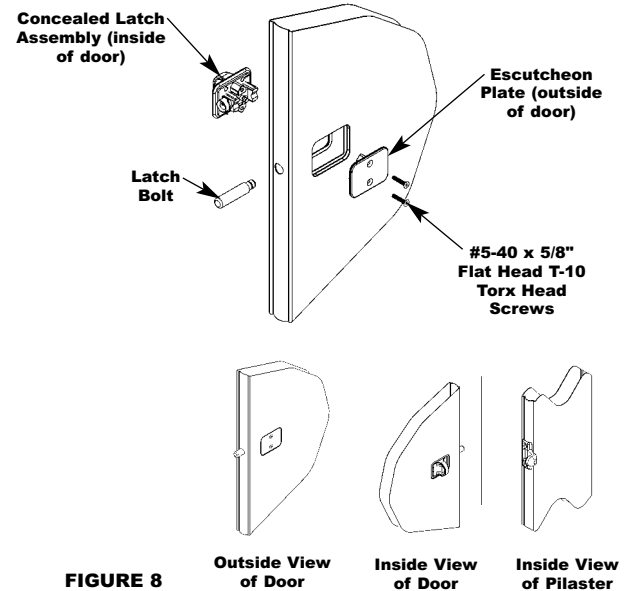

FIGURE 8
A. Install concealed latch in prepunched hole on door as shown in Figure 8.